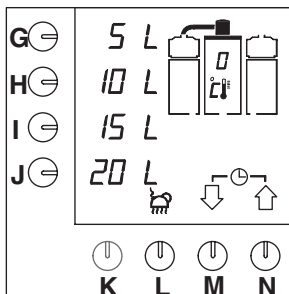

Fig. 6 Activating the HW system
The boiler is filled and the "Automatic Boiling Point Determination Programme" (duration: about 30 minutes) is activated. This calibration programme determines the boiling point of water at the place where the machine is actually used. The boiling point partly depends on the local atmospheric pressure and at sea level this will be approximately 100 °C, whereas at a height of 2,000 m the boiling point will be as low as about 97 °C. This boiling point will be given on the display (fig. 6). The system will itself determine the optimum temperature based on the measured boiling point; this is always approximately 4°C below the boiling point. The water temperature will be displayed after pressing the activating key (L.).
- Figure 6 appears on the display.